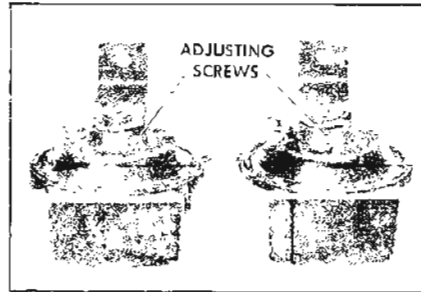

Figure 10-57—Matched Horn Set
3. Adjust or specify current draw if necessary, by turning adjusting screw clockwise or decrease or counter-clockwise to increase current draw. Turn only 1/4 of a turn at a time. If adjustment loosens screw excessively, it may be staked with a prick punch. See Figure 10-57.